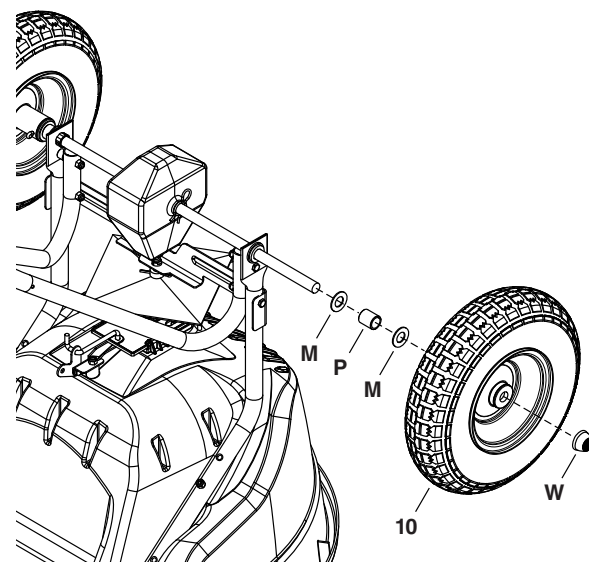

Figure 10
STEP 10: (SEE FIGURE 10)
- Slide a 5/8" washer (M), a spacer (P), a 5/8" washer (M) and a wheel (10) onto the end of the axle without a hole.
- Using a hammer, carefully tap a hub cap (W) onto the axle.